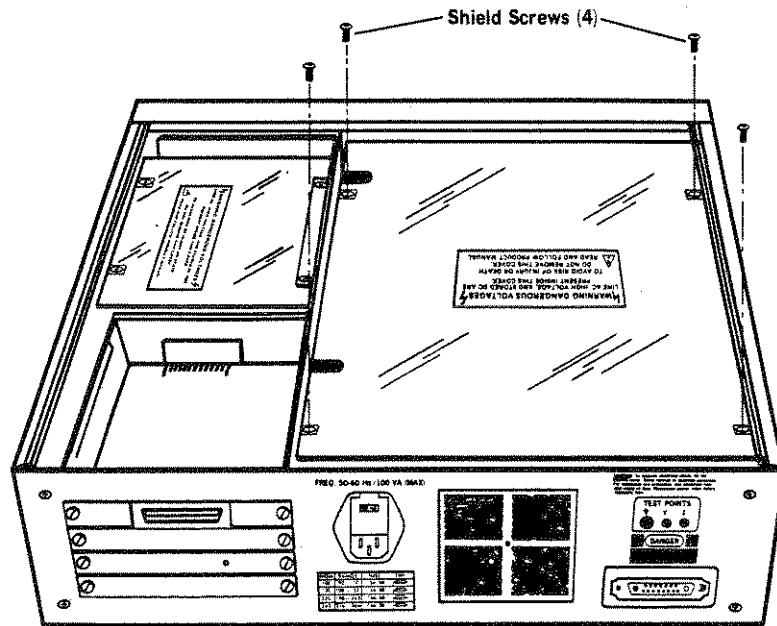

Figure 7-26. Replacing the Low Voltage Shock Shield
STEP 3. Replace the Low Voltage Shock Shield and secure it using the 4 screws that originally held it. Refer to Figure 7-26.